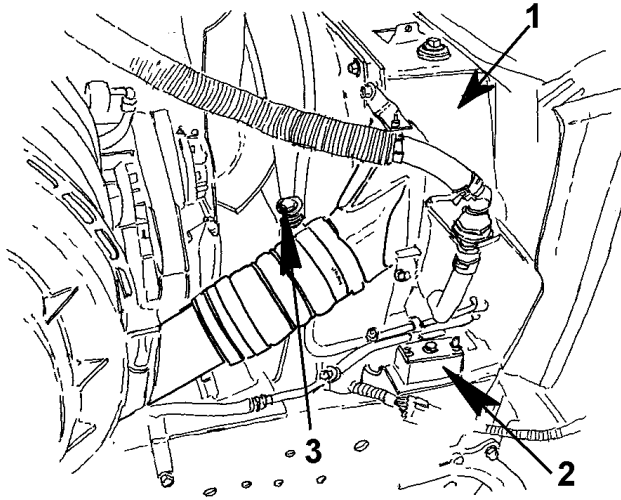
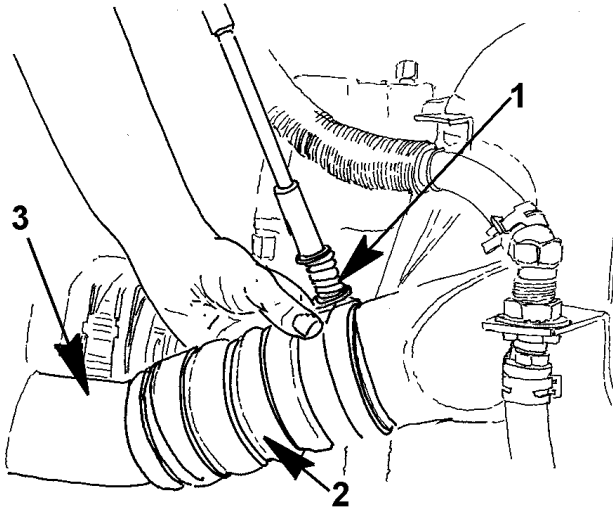

Figure 10 Charge Air Cooler Connections (Passenger Side Shown)
Figure 11 Charge Air Cooler Connection
4. Locate the tension spring clamp (Item 3, Figure 10), loosen, and remove clamp (Item 1, Figure 11).